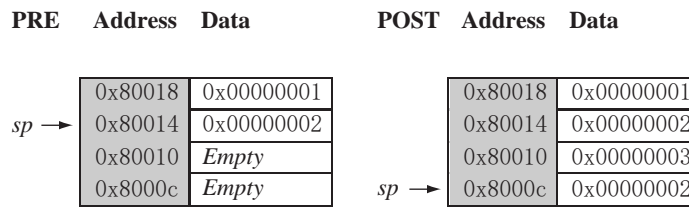

Figure 3.7 STMFD instruction—full stack push operation.
**EXAMPLE** The STMFD instruction pushes registers onto the stack, updating the *sp*. Figure 3.7 shows a push onto a full descending stack. You can see that when the stack grows the stack pointer points to the last full entry in the stack.